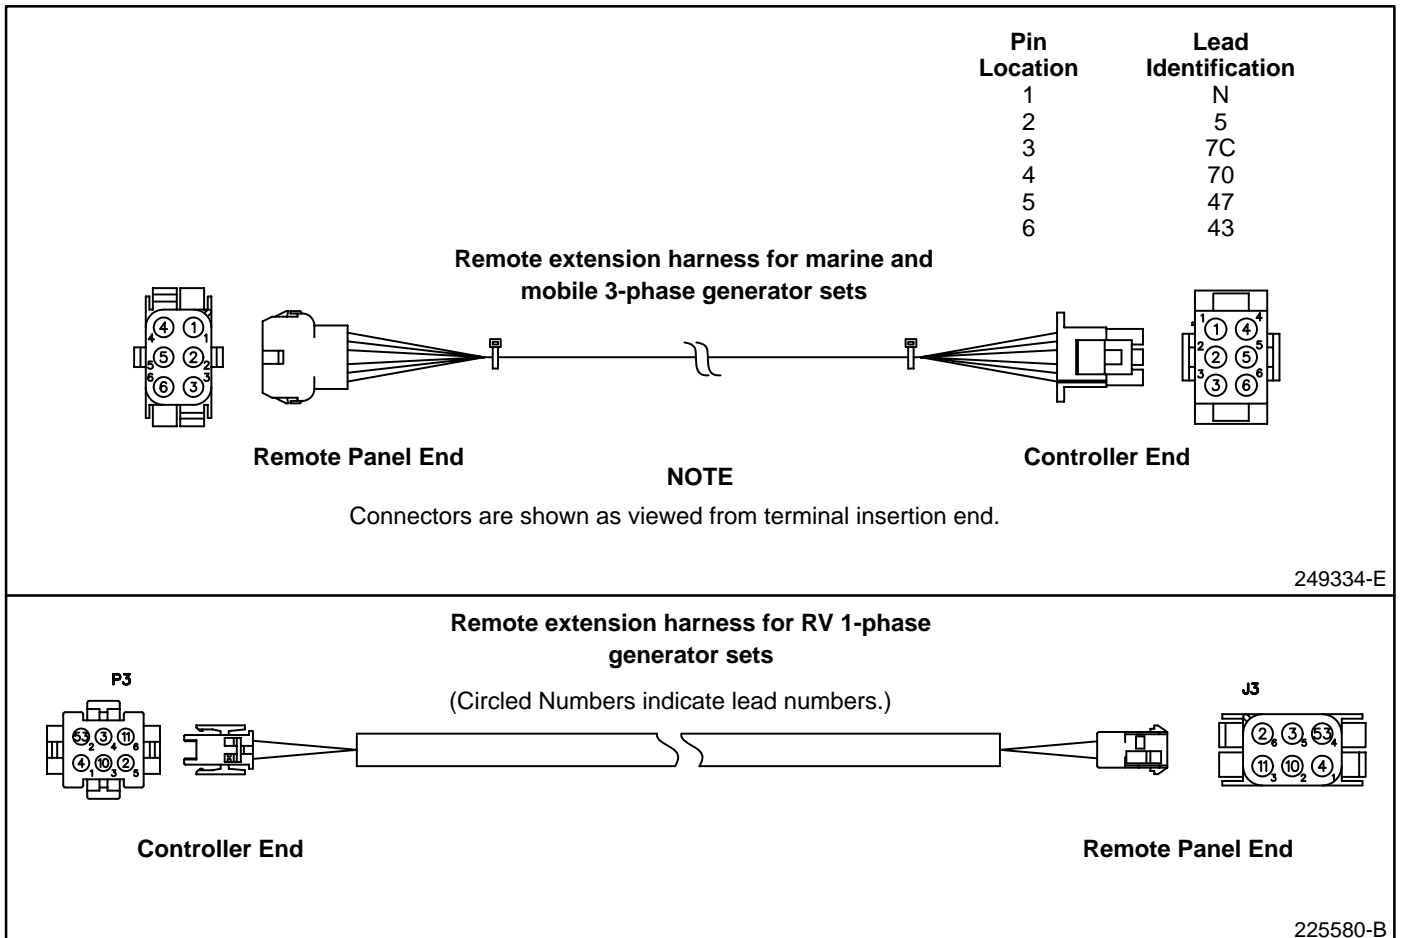

Figure 5. Remote Extension Harness
4. Connect remote extension harness to remote panel and mount panel using four screws (not supplied). See Figure 5.